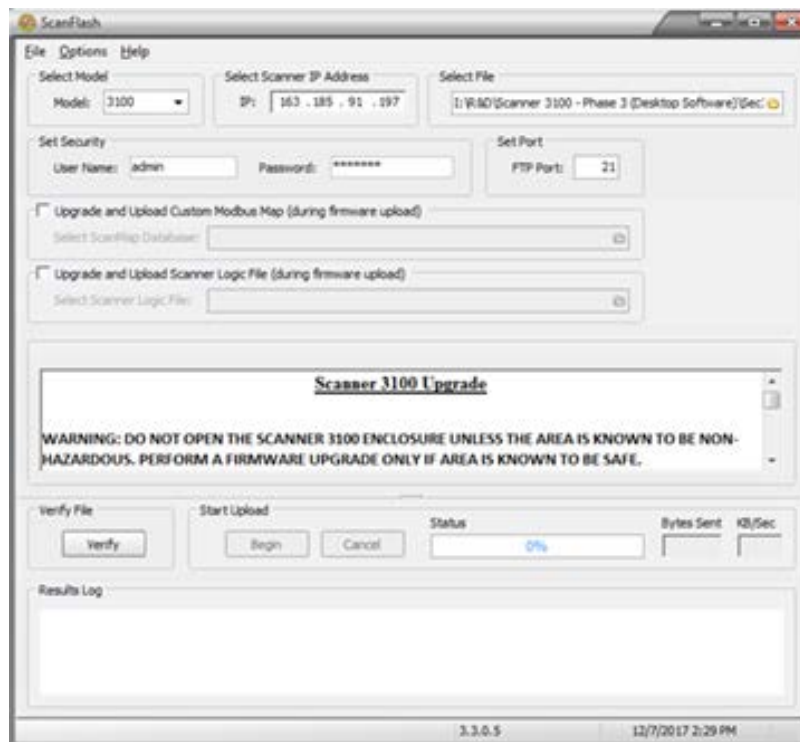

Figure C.1—ScanFlash interface
4. Open ScanFlash (shown in Figure C.1) and enter the IP address for the device.